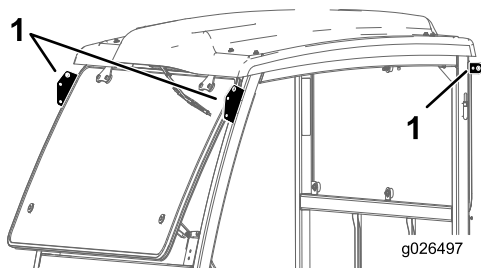

Figure 5
- Lift the cab frame using the lifting points and place it on the machine (Figure 5).